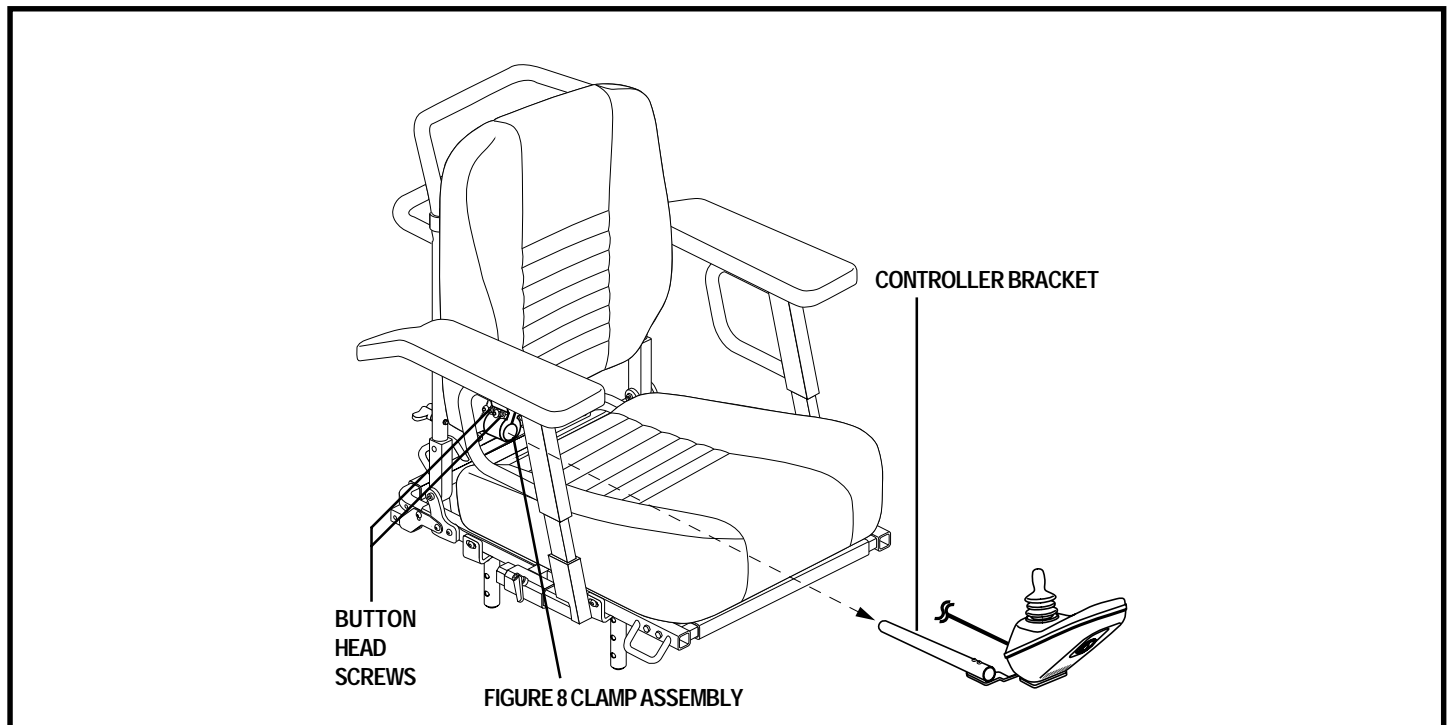

Figure 15. Controller Position
4. Loosen the button head screws on the figure 8 clamp assembly located on the armrest. See figure 15.